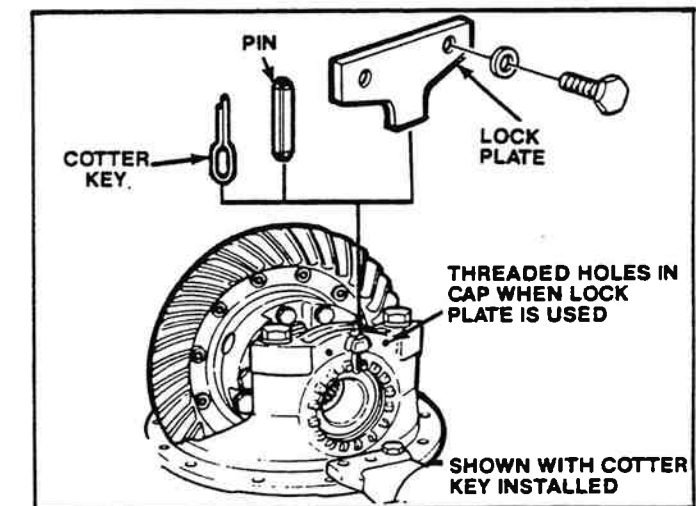

Figure 2-97. Fastening Bearing Adjusting Rings.
a. Cotter Keys - Install cotter keys between lugs of the adjusting ring and through the boss of the bearing cap. Bend the two ends of the cotter key around the boss (Figure 2-97).
b. Pins - Install pin through boss of the bearing cap until the pin is between lugs of the adjusting ring. Use a drift and hammer to install the pin (Figure 2-97).
c. Lock Plates - Install lock plate on bearing cap so that the tab is between lugs of the adjusting ring. Install the two capscrews that hold the lock plate to the bearing cap. Tighten the capscrews to correct torque value. See the torque chart later in this section (Figure 2-97).